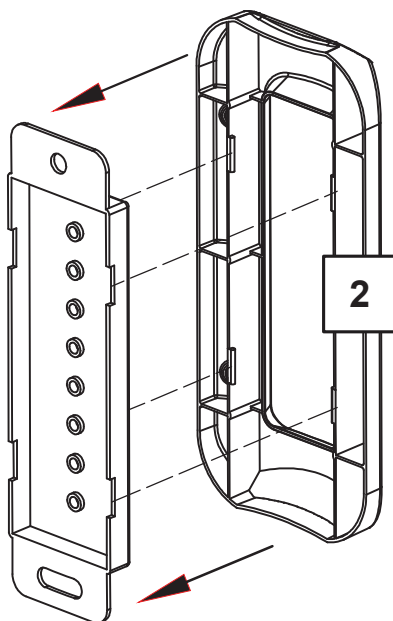

Fig. 5
Align the four tabs on the **Plastic Cover (2)** with the 4 cut-outs on the **Wall Plate (1)** as shown in Fig. 5. Gently apply pressure until the **Plastic Cover (2)** snaps into position on the **Wall Plate (1)**.